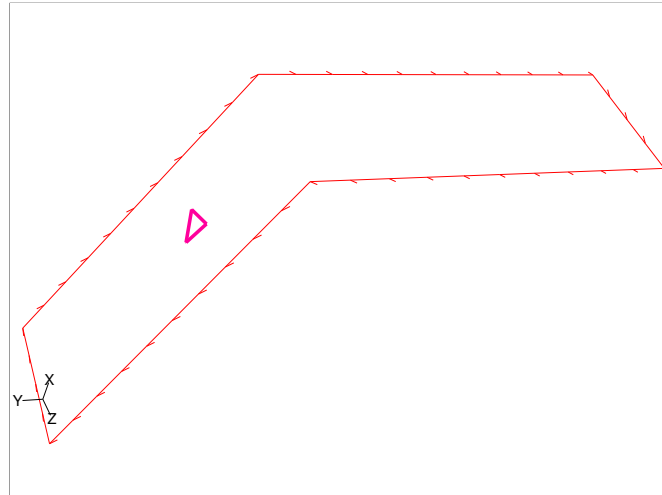

Figure 7.6.4: Edge Loop for Face Seed Approach and Fixed Angle = 65
- Figure 7.6.4 shows the single edge loop created by using the **Face Seed** approach and **Fixed** angle criterion, with the angle specified as 65 degrees. The edge thread at the common edge is not created since the specified value for **Angle** is greater than the feature angle.